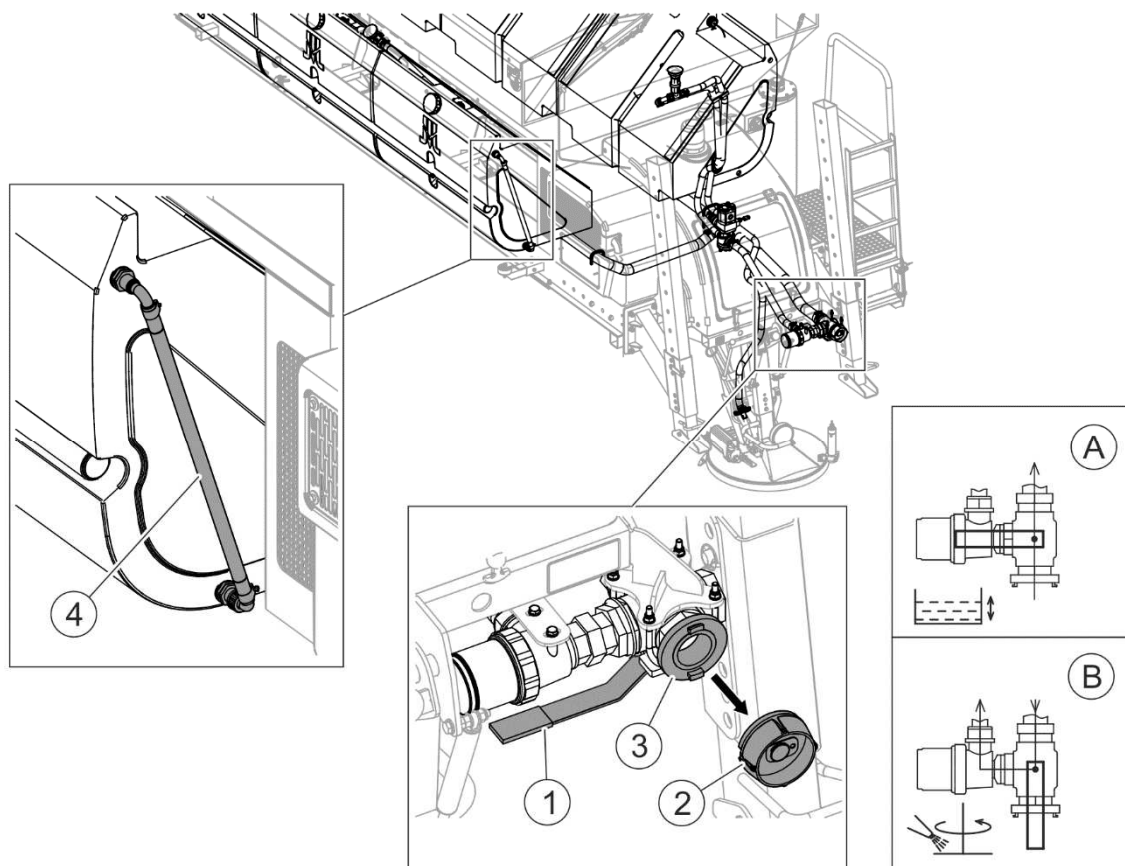

FIGURE 4.32 Emptying brine tanks
Before unscrewing plug (2), make sure that valve lever (1) is in position (B) (FIGURE 4.32).